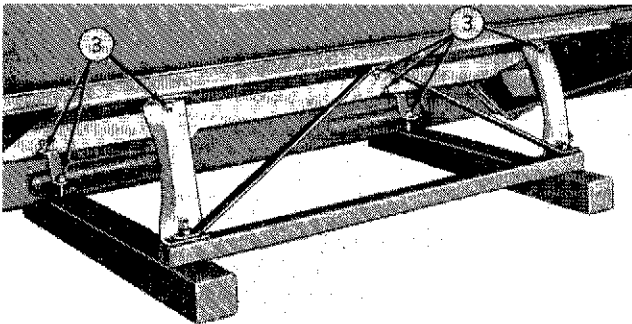

Fig. 102-Removing Shipping Skid
3. Remove clamps and uprights that attach row-crop head to skid (Fig. 102).